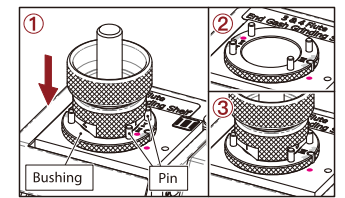

Fig. 8-2
2. 3 Flute End Gash Grinding (II) (Fig. 8-2)
- ① Insert the chuck set into the bushing on the Shelf (II), align Slot No.1 to the two pins where marked as No.(I-II), push the chuck set gently until the grinding noise stops. Turn the chuck set to grind the Slot No.2 in the same way.
- ② Take the chuck set out, turn the bushing to No.(III), align No.(III) to the pin on the shelf, then insert it to the end.
- ③ Insert the chuck set into the bushing, align Slot No.3 to the two pins where marked as No.(III), push the chuck set gently until the grinding noise stops.